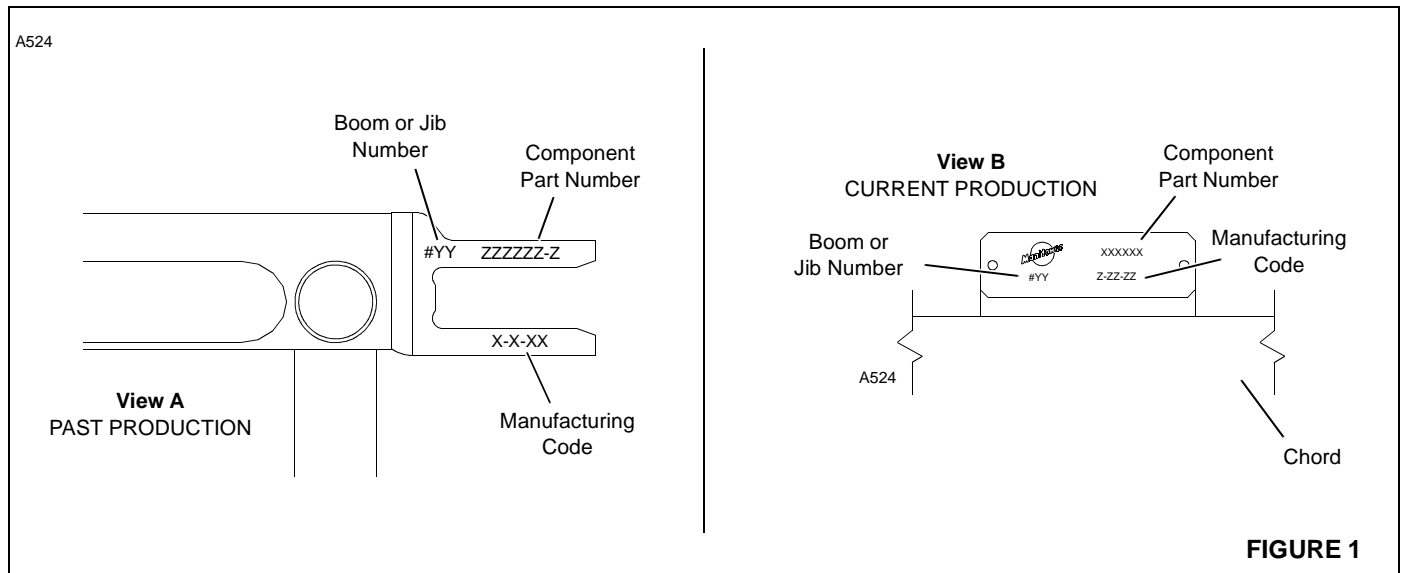

FIGURE 1
1. Mount wire rope shipping reel on a shaft supported at both ends by jacks or blocks as shown in Figure 1.